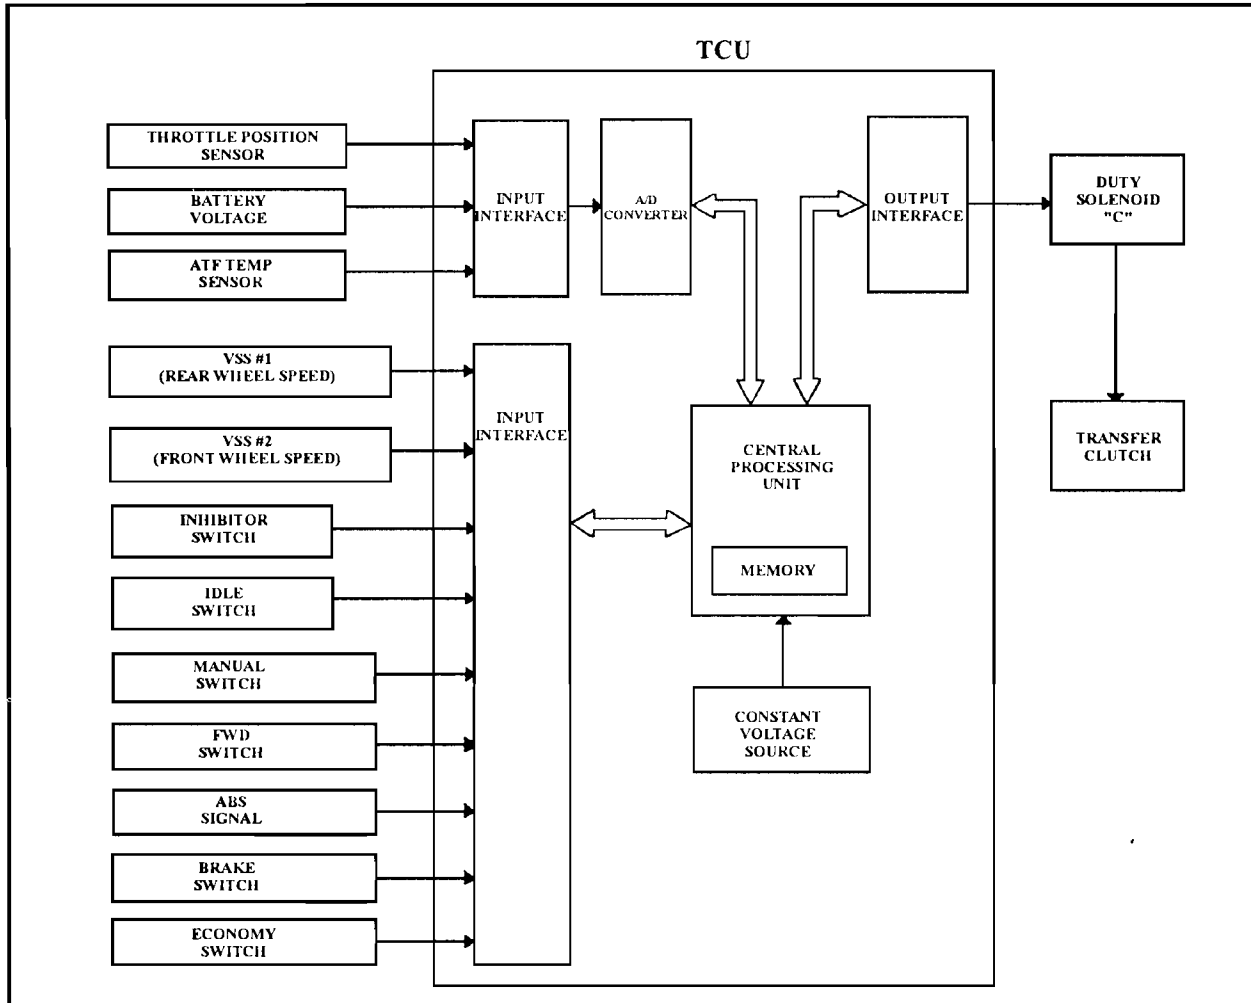

Figure 82
- STEP 5:** If voltage does not respond to throttle opening, the problem could be a faulty TPS, VSS #1 or #2, or any of the sensors shown in figure 82 or a faulty TCU.